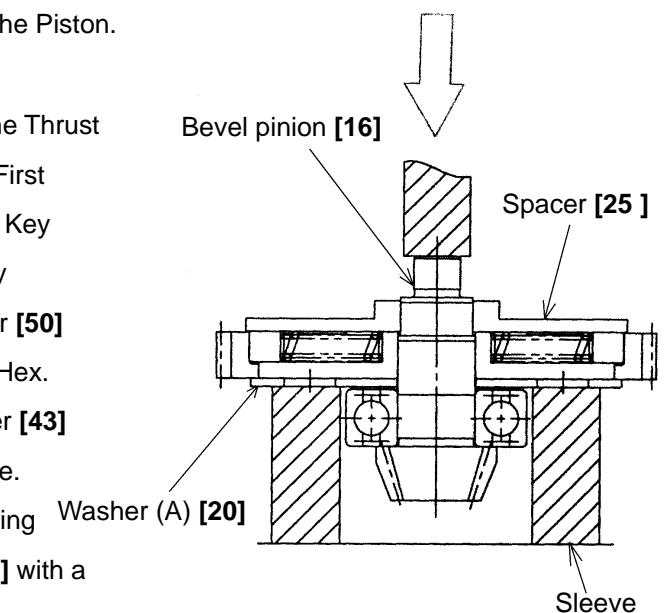

Fig. 17
(2) Removing gears from the crank case
Remove the Retaining Ring for D17 Shaft [47] and the Thrust Washer [46] from the Crank Shaft [40]. Pull out the First Gear [45] with a bearing puller. Remove the Feather Key 5 x 5 x 15 [29]. Remove the Slip Clutch Ass'y [27] by hammering the Crank Case [35] from the Gear Cover [50] side with a plastic hammer. Remove the two Nylock Hex. Socket Hd. Bolts M5 x 16 [38] from the Bearing Cover [43] and pull out the Crank Shaft from the Gear Cover side. The Slip Clutch Ass'y can be removed with the following procedure. First, pull out the Ball Bearing 629VV [26] with a bearing puller. Support Washer (A) [20] on a sleeve as shown in Fig. 17 and release the press-fitted Bevel Pinion [16] by pushing it from the Spacer [25] side using a hand press. When removing the Gear Holder [21] from the Second Gear [24], it is recommended to keep them inside a vinyl bag during disassembly to prevent Springs (C) [22] and Needle Pins D6 x 6 [23] from scattering.
(3) Disassembly of the tool holder